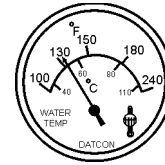

Figure 46. Coolant Temperature Gauge
10. The **coolant temperature gauge** (Figure 46) will indicate the coolant temperature. Under normal operating conditions the coolant temperature should be between 167°~203°F (75°~95°C) (**Green Zone**).